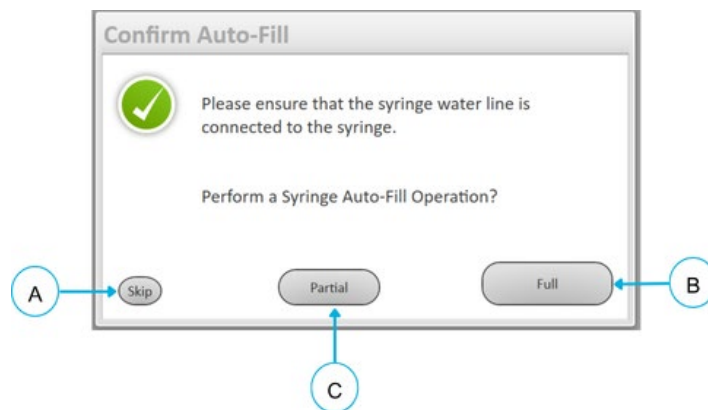

Figure 11-11: Perform Syringe Auto-Refill Operation Screen
- The Generator displays: “Perform a syringe autofill operation?” (**Figure 11-11**)
■ **NOTE:** If an additional needle tune is performed and the Syringe is already partially filled with Sterile Water, select **[Partial] (C)** to fully fill Syringe. If the Syringe is full, select **[Skip] (A)** and no further action is necessary (see **Figure 11-11**).